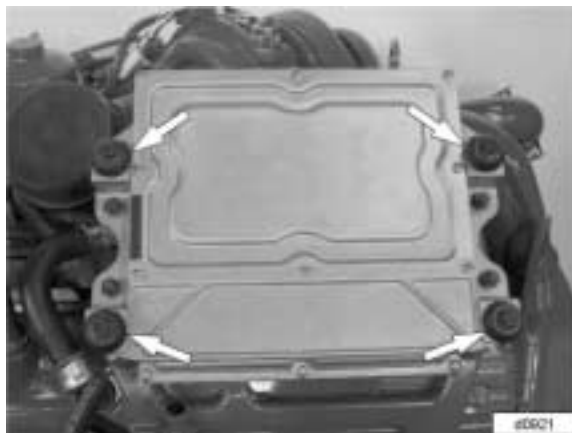

Figure 1: IDM / ECM Mounting bolts
4. Remove the four mounting bolts (shown in Figure 1) that secure the IDM / ECM assembly to the support bracket and remove the IDM / ECM assembly without removing the support bracket.